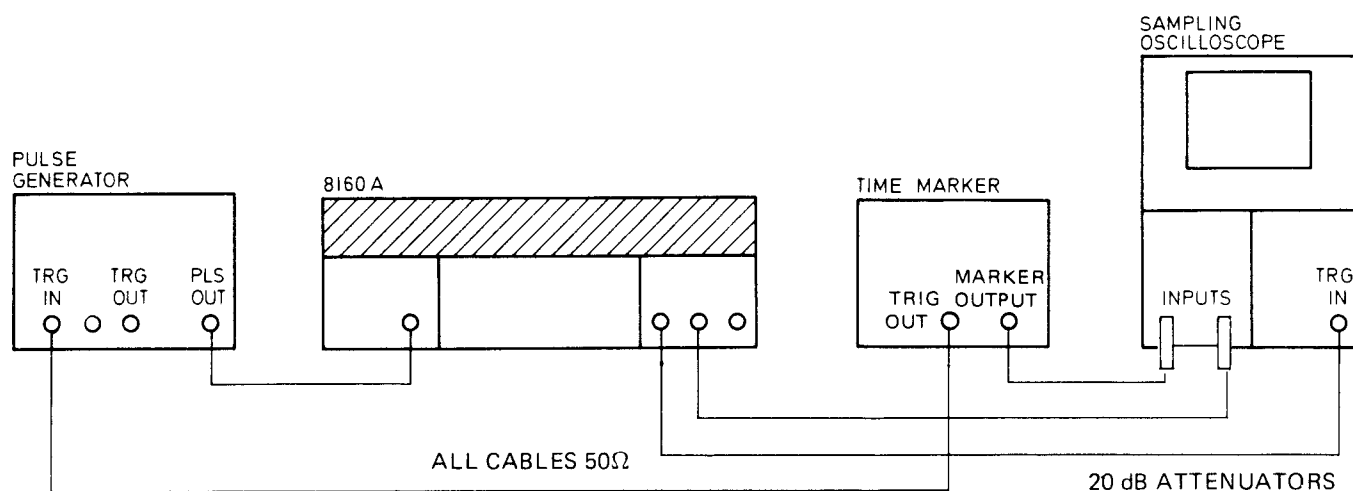

Figure 4-6. Delay/Double Pulse Test Set-up
- Set up equipment as shown in figure 4-6. Set controls as follows: